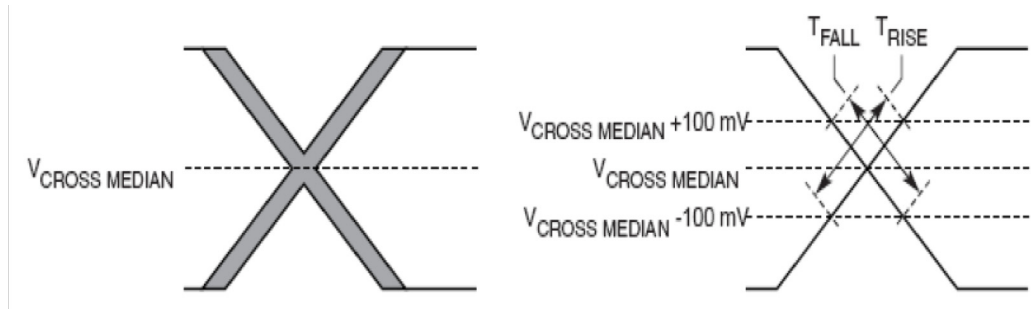

Figure 42. Single-ended measurement points for rise and fall time matching
6. Matching applies to rising edge for SD_REF_CLK $\bar{n}$ and falling edge rate for SD_REF_CLK n . It is measured using a 200 mV window centered on the median cross point where SD_REF_CLK $\bar{n}$ rising meets SD_REF_CLK n falling. The median cross point is used to calculate the voltage thresholds that the oscilloscope uses for the edge rate calculations. The rise edge rate of SD_REF_CLK $\bar{n}$ should be compared to the fall edge rate of SD_REF_CLK n , the maximum allowed difference should not exceed 20% of the slowest edge rate. See Figure 42.